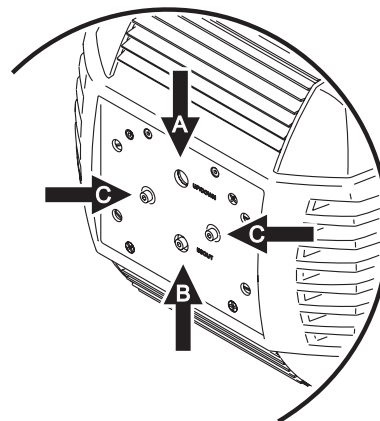

Figure 5: Lamp adjustment screws
2. See Figure 5. Center the hot spot vertically using the top Allen-head adjustment screw (A) in the center of the rear plate. Center the hot spot horizontally using the side-to-side adjustment screws (C).
3. If there is an excessive hot spot, turn the bottom adjustment screw (B) counterclockwise until the light is evenly distributed. If the light is brighter around the edge than it is in the center, or if light output is low, turn the bottom adjustment screw (B) clockwise until the light is bright and evenly distributed.